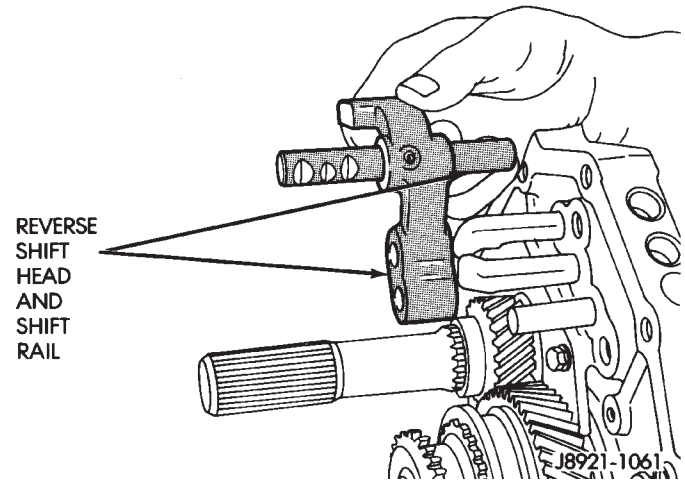

Fig. 31 Removing Reverse Shift Head And Rail
(11) Remove reverse shift rail and reverse shift head as assembly (Fig. 31).
(12) Measure thrust clearance between counter fifth gear and thrust ring with feeler gauge. Clearance should be 0.10 - 0.40 mm (0.003 - 0.019 in.). If clearance exceeds limits, gear and/or ring will have to be replaced.